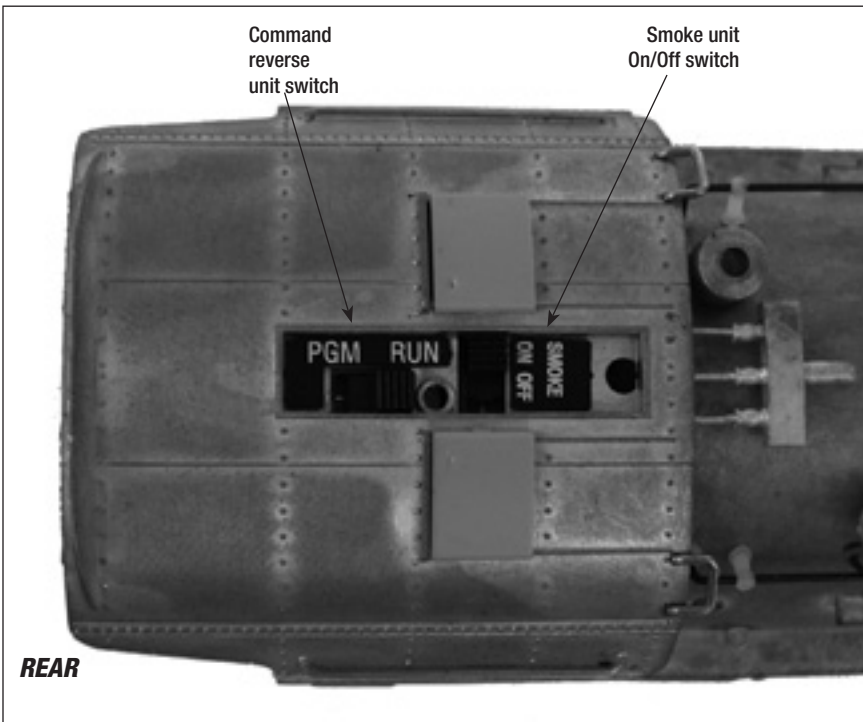

Figure 4. Locomotive switch locations
Caution! Set the smoke unit switch to the Off position if you will be making multiple direction changes to prevent overheating the smoke unit. See Figure 4 on page 8 for the location of this switch.
If you prefer to operate your locomotive without smoke, locate the smoke unit switch and slide it to the NO SMK position. Refer to Figure 4 on page 8 for the location of the switch.
The functions of your locomotive's switches are outlined below. Refer to Figure 4 for the location of the switches. **The instructions below are specific to this particular locomotive; note that available features (and switches) may differ from other locomotives and locomotive sets.**
- 1. Slide the Command reverse unit switch on your locomotive to the PGM position. See Figure 4 on page 8.**